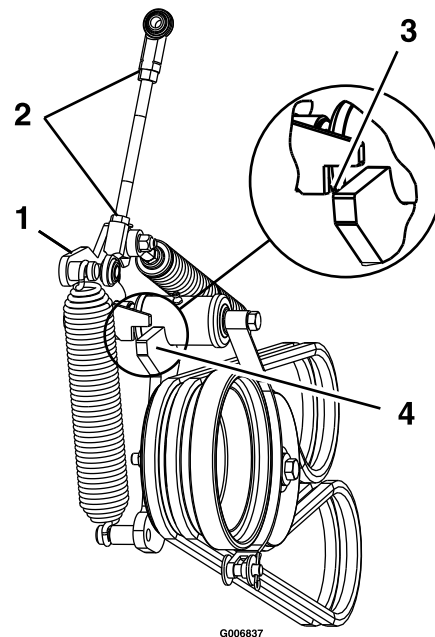

Figure 61
12. Loosen the jam nuts and adjust the linkage until the top of the idler arm is aligned with the bottom of the notch on the tension arm as shown in Figure 61.